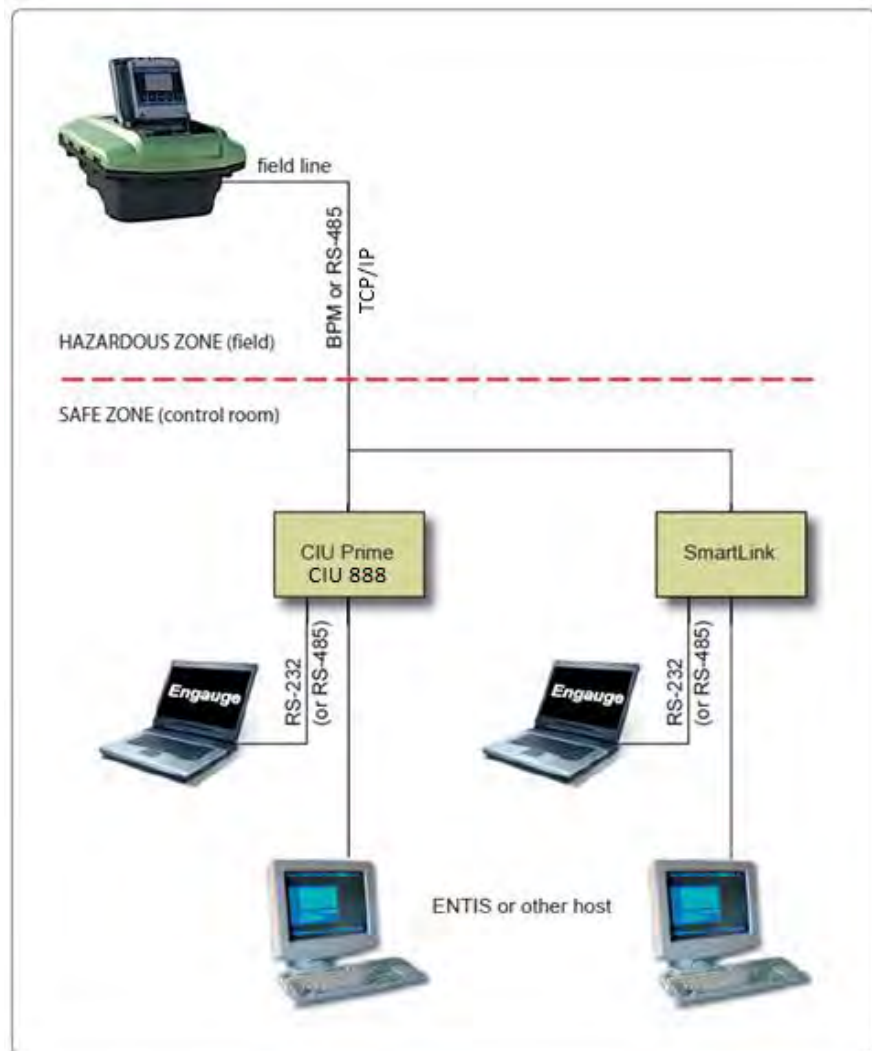

FIGURE 4-34 Connecting the *Engauge* service tool - wired connections
4.3.1.1 Wired Connections Situation (FIGURE 4-34)